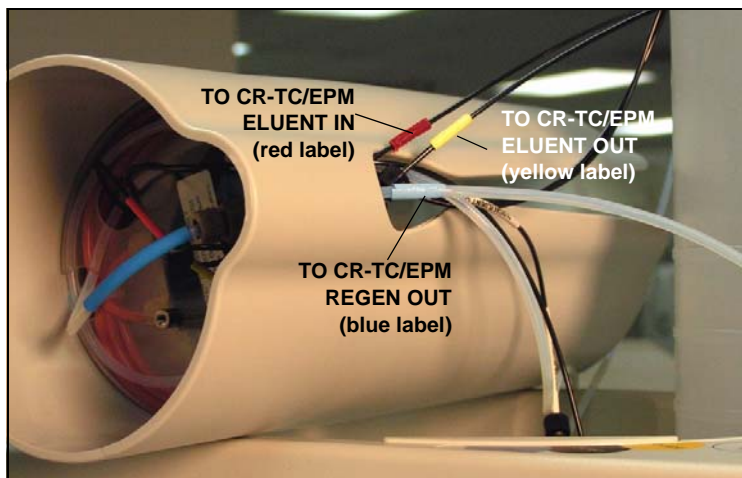

Figure B-53. TO CR-TC/EPM Lines Outside of Holder
4. Thread the three extended lines (red, yellow, and blue labels) through the opening on the side of the holder (see Figure B-53).